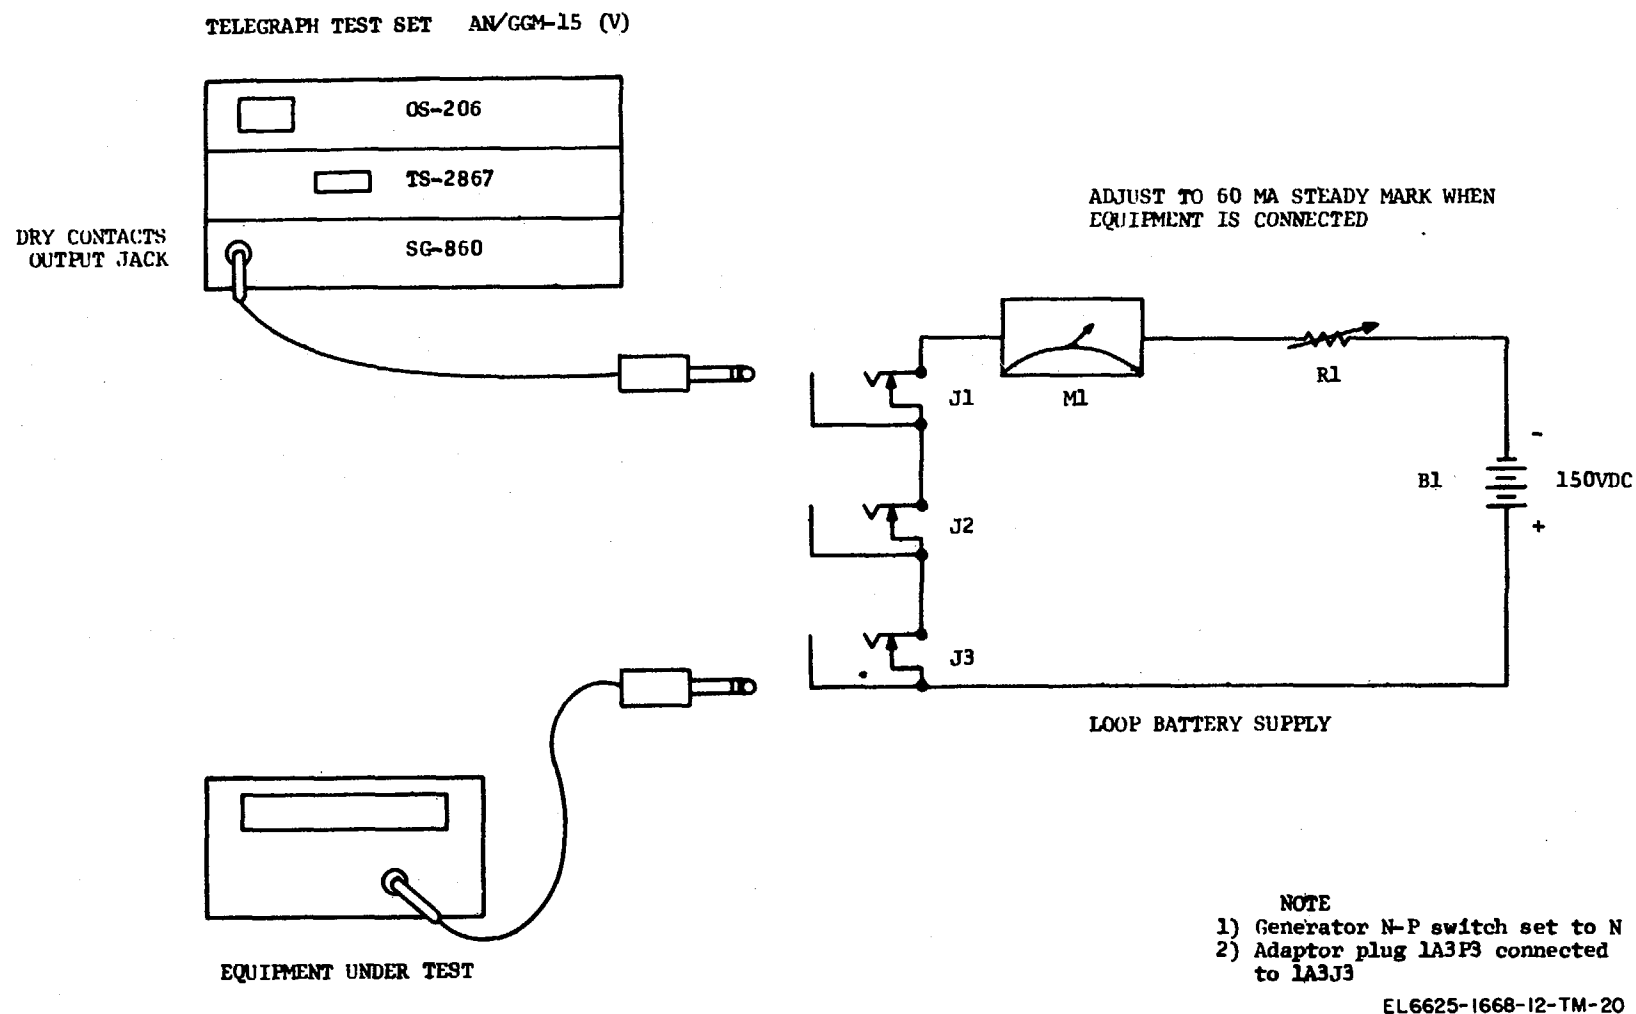

Figure 3-5. Free-run message operation (high level neutral).
- (b) Connect a patch cord from the DRY CONTACTS output jack to the external neutral loop. The connections to the Loop Battery Supply are illustrated in figure 3-5.